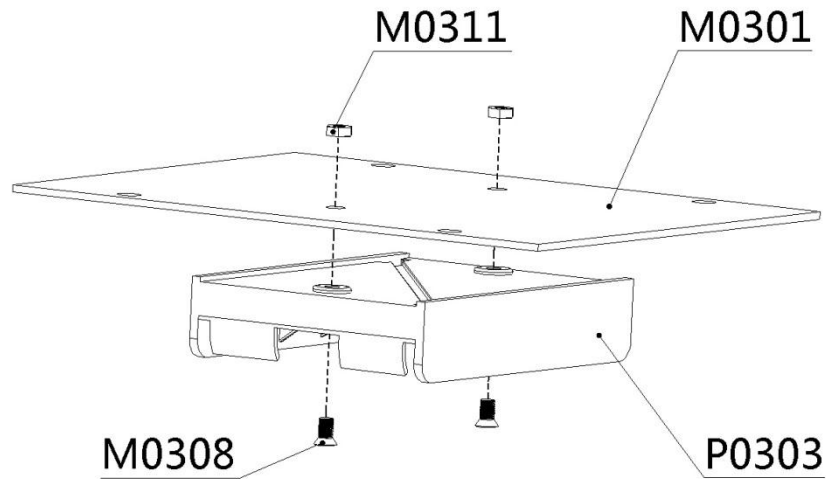

Figure 4-2
4. Figure 4-2; the battery holder is installed with countersunk screws on the fuselage's lower plate.(tips: you may alternatively use the 7.4V Lipo 2200mAh Battery(FIT0137) at www.DFRobot.com to replace the battery holder).